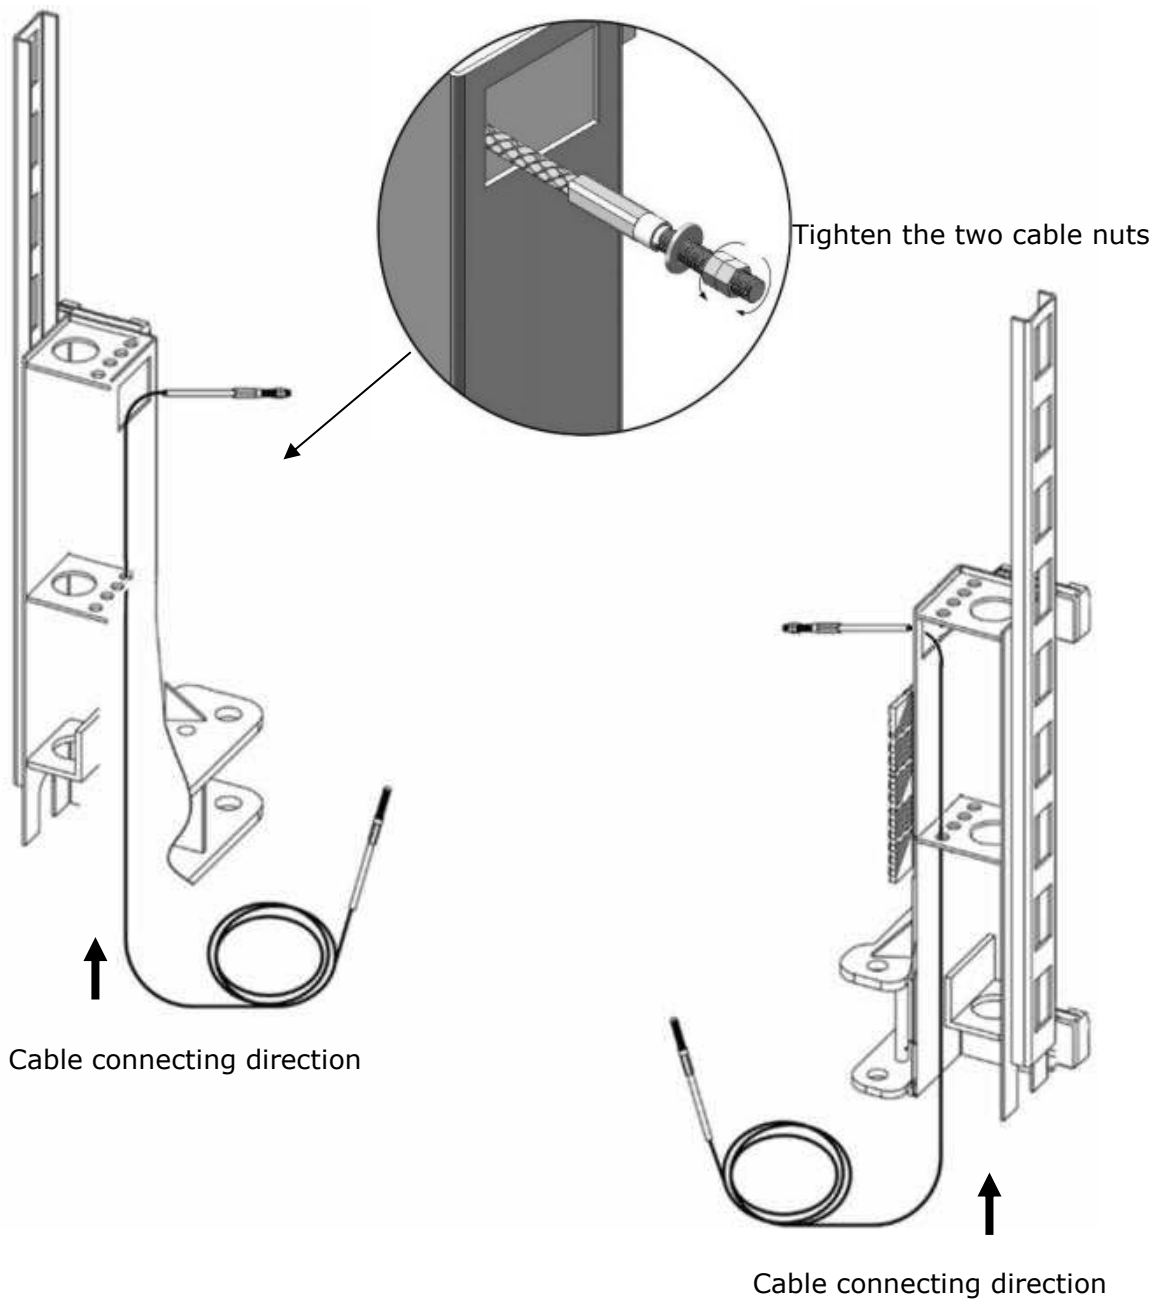

Fig.30
- 1.1 Remove the carriages plastic cover, sync cable across from the bottom of the carriages and pull it out from the hole of carriage, then tighten two cable nuts. **(See Fig. 30)**